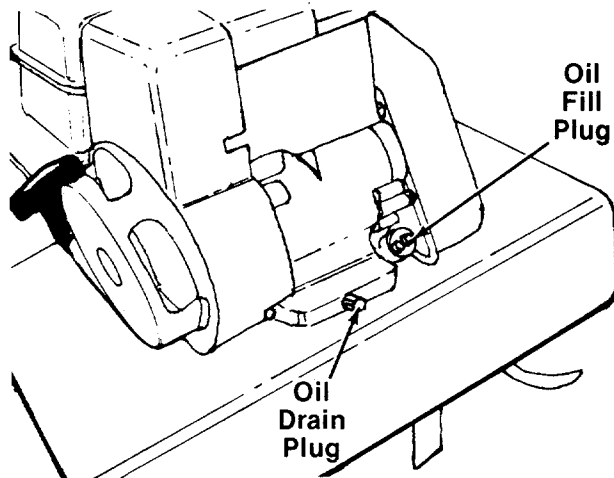

FIGURE 16.
1. Before starting, fill crankcase with 1¼ pints of oil full to point of overflowing. Be sure that the engine is level. See figure 16.